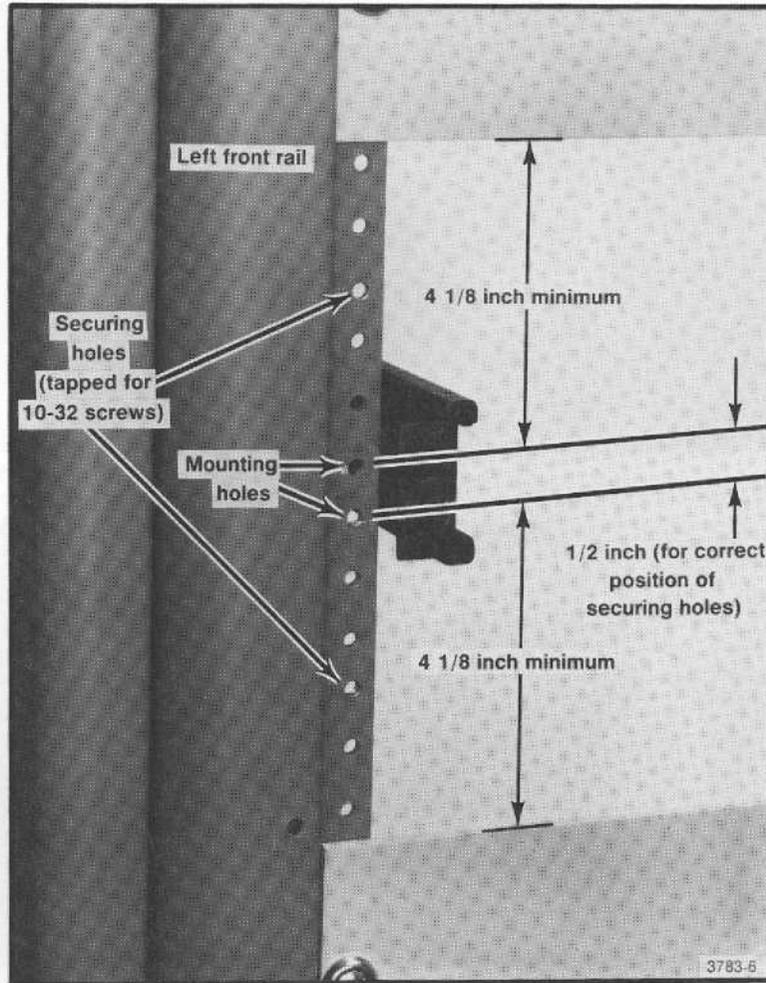

Fig. 6-5. Measurements of front-rail mounting holes for the stationary sections.
- 1) select the proper front-rail mounting holes for the stationary sections, using the measurements shown in Fig. 6-5;